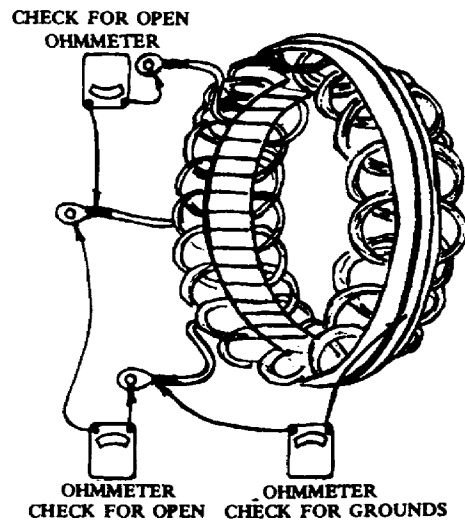

Figure 4. Y stator.
a. To check the Y-connected stator for opens, connect an ohmmeter or test light across any two pairs of terminals. A high ohmmeter reading, or no light, will reveal an open winding (fig 4).